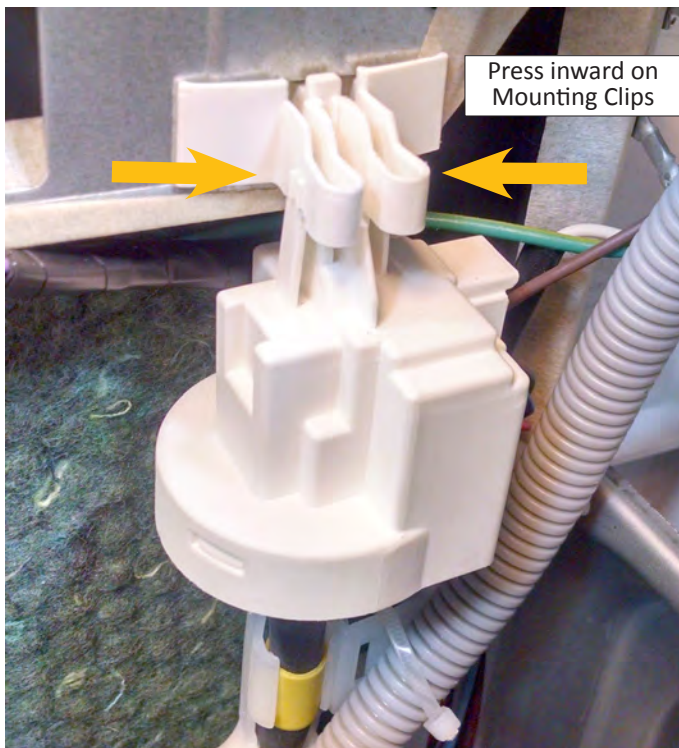

Figure 1
6. Squeeze the pressure switch mounting clip to remove the pressure switch from the side panel (see Figure 1).